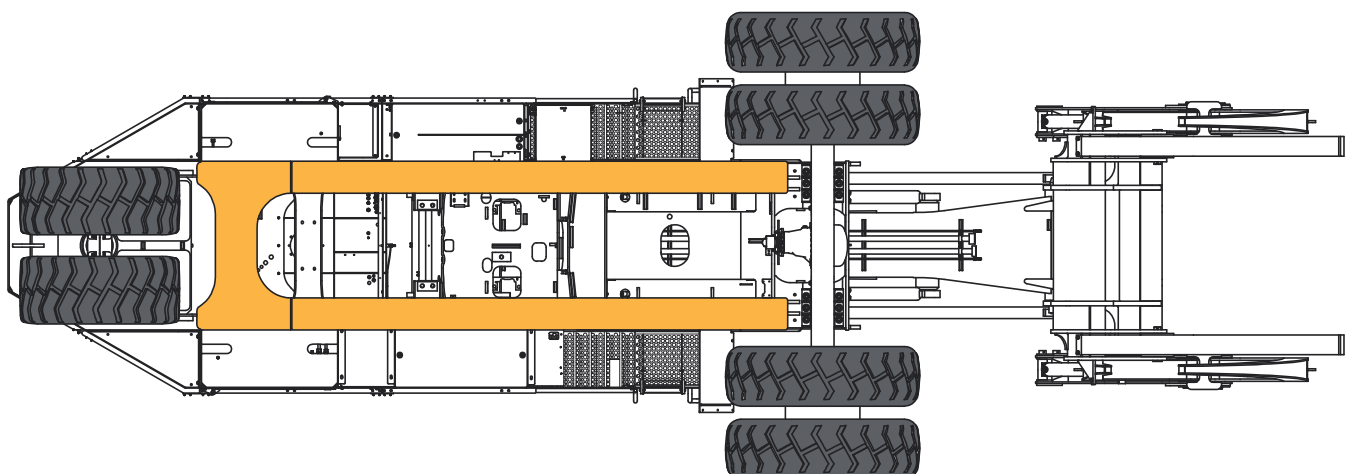

Figure 1 Jacking Locations, L100
4. See Figure 1. Jacks and jack stands may be placed anywhere on the bottom 1" steel plate highlighted in yellow. Use pads (anti slip material) that are minimum 4" x 4" in size between jack and Logstacker to prevent damage.